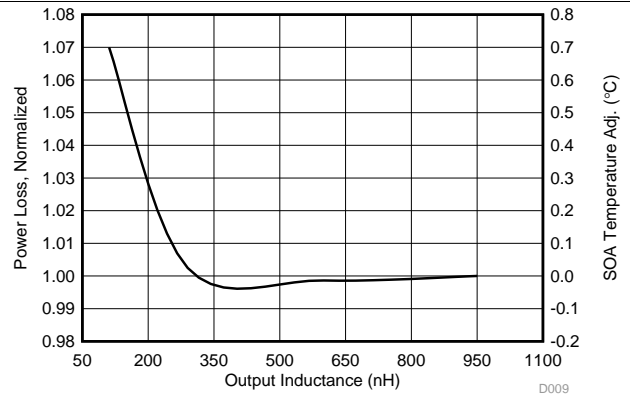

图 7. Normalized Power Loss vs Output Inductance
- Normalized power loss for output inductor ≈ 1.0 (图 7)
- SOA adjustment for output inductor $\approx 0.02^\circ\text{C}$ (图 7)